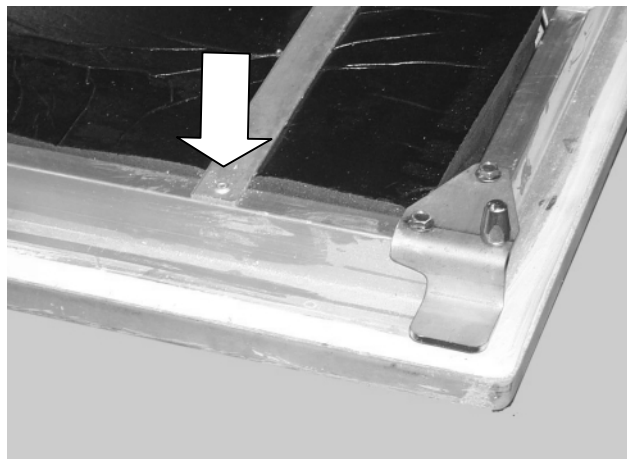

Figure 4: Strips are riveted to the door frame rails
- Secure the strip with two water tight rivets VH 660611691 (see Figure 4).